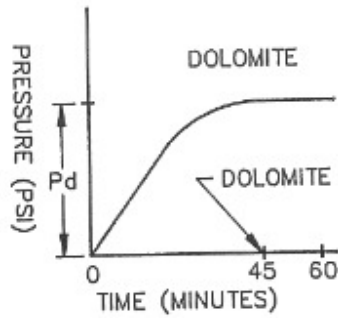
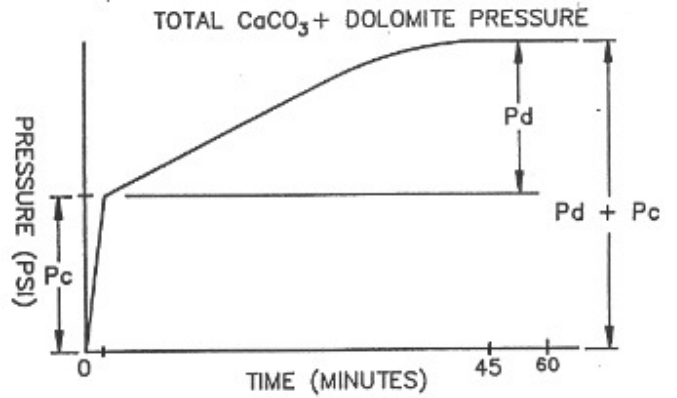

Fig. 2
Fig. 3
D. For interpretation of the pressure readings. Refer to Fig. 1, 2, and 3. These are representative of pressure versus time graphs as they would appear on a Pressure Recorder Chart. Fig. 1 is representative of the CaCO₃ only. Fig. 2 is representative of dolomite only. Fig. 3 is representative of combined CaCO₃ and dolomite.
E. For interpretation of the pressure readings. Refer to Fig. 1, 2, and 3. These are representative of pressure versus time graphs as they would appear on a Pressure Recorder Chart. Fig. 1 is representative of the CaCO₃ only. Fig. 2 is representative of dolomite only. Fig. 3 is representative of combined CaCO₃ and dolomite.